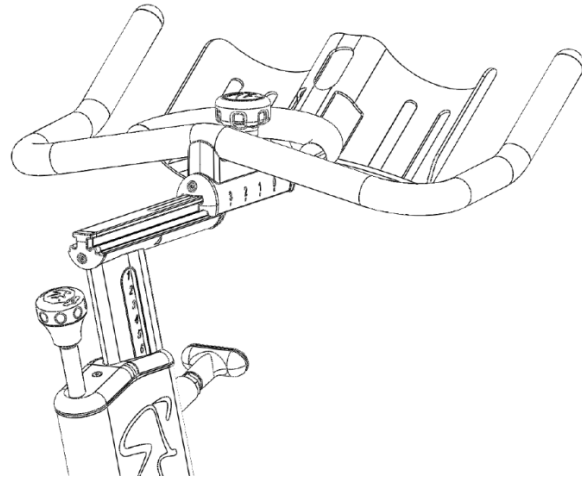

Fig. 20
20. Mount the handle bar to the front height adjustment post (Fig. 20) by relieving spring tension on the large knob and sliding the handle bar into place.